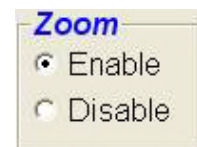

Figure 15
- Point zoom - On the right side of the screen note a zoomed in view of the exact point to be measured first. If this view "is *not desired*, select "Disable" from the zoom feature in the box under "Zoom". A point description is included a the top of the point zoom box, in the illustration it states "Torque Box Slot 25 x 28mm", See Figure 15.